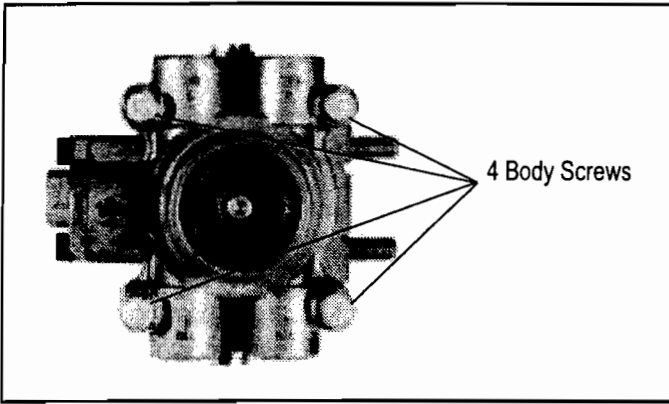

Figure 4 - BOTTOM VIEW OF SR-7™ VALVE
4. Using a 7/16" wrench remove the four screws that secure the upper and lower bodies of the SR-7™ valve. Refer to Figure 4. Do not disconnect additional hoses or fittings. The separation between the upper and lower body should be approximately three inches to allow adequate room to install this kit.